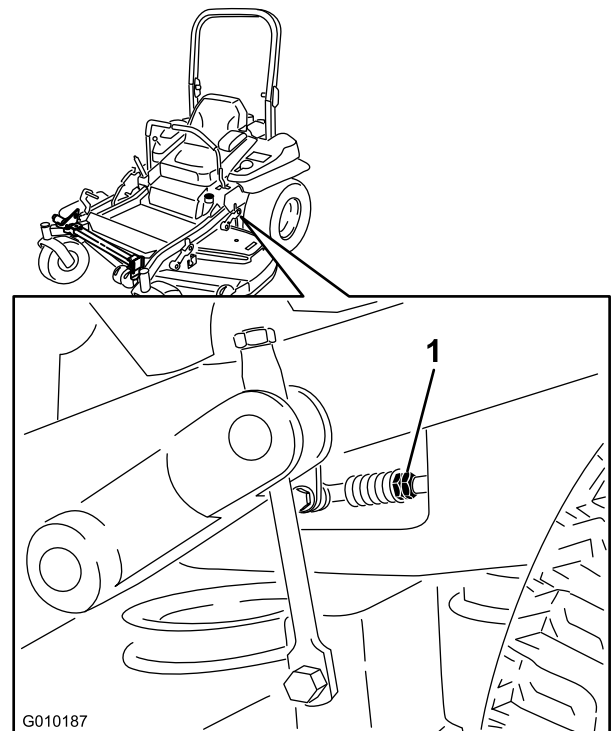

Figure 80
9. Adjust the pump control rod lengths by rotating the double nuts on the rod in the appropriate direction until the wheels slightly creep in reverse (Figure 80).